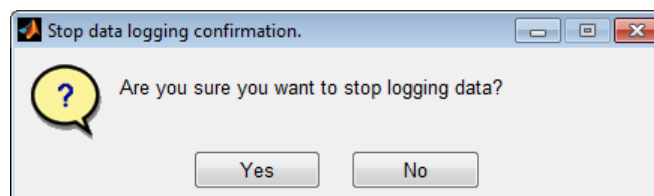

Figure 5.3: 'Data Logging Options' dialog box for remote logging.
- ✓ **Step 5.7** Click Commands ▷ Stop Logging... from the main menubar. This can also be achieved by clicking the button from the toolbar. A dialog box should display similar to Figure 5.3 to confirm whether data logging should stop.